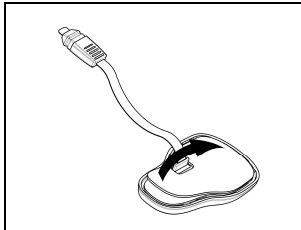

Fig. 34
- Remove the protective film from the back of the adhesive keypad using the special tab (Fig. 34).